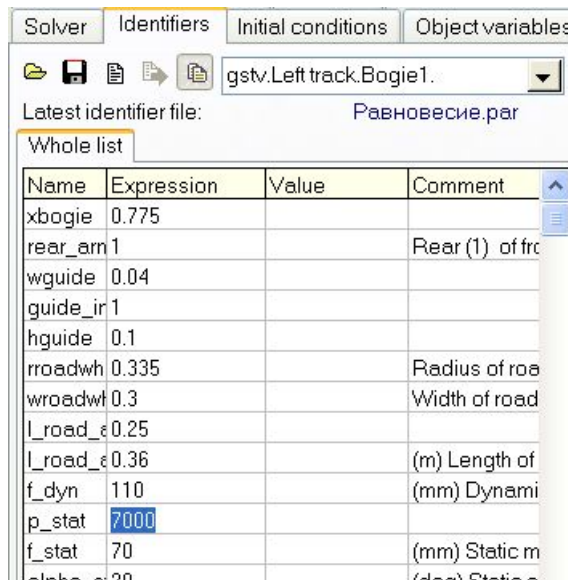
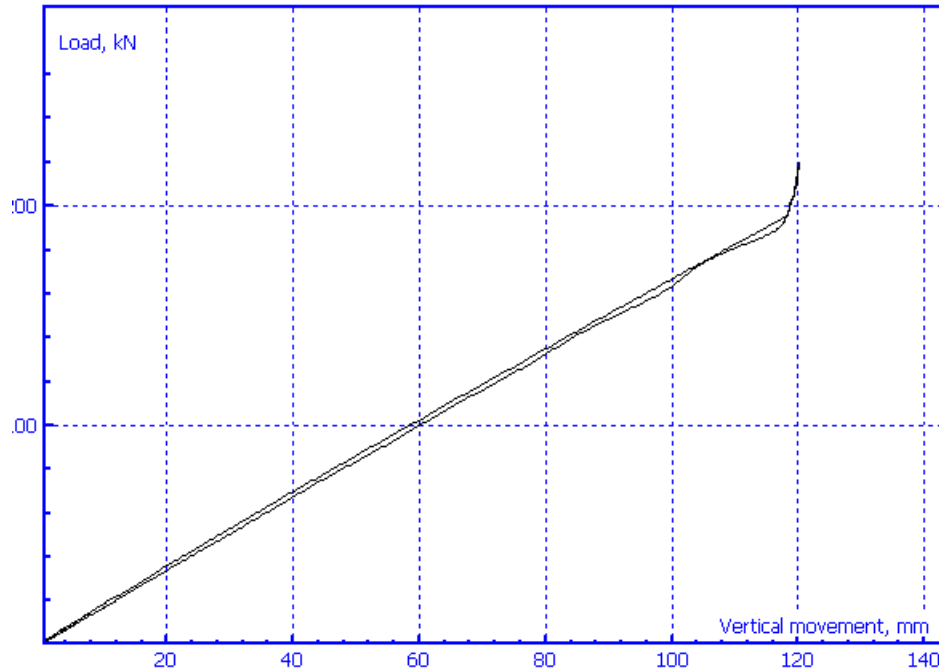

Fig. 40 Modification of parameters
Fig. 53 Test result: Load vs. vertical movement
3) Run the test. The results are shown in Fig. 53. Increase of the suspension stiffness corresponds to the vertical movement exceeding the road wheel dynamic travel 110 mm parameterized by the identifier f_dyn , Fig. 40.